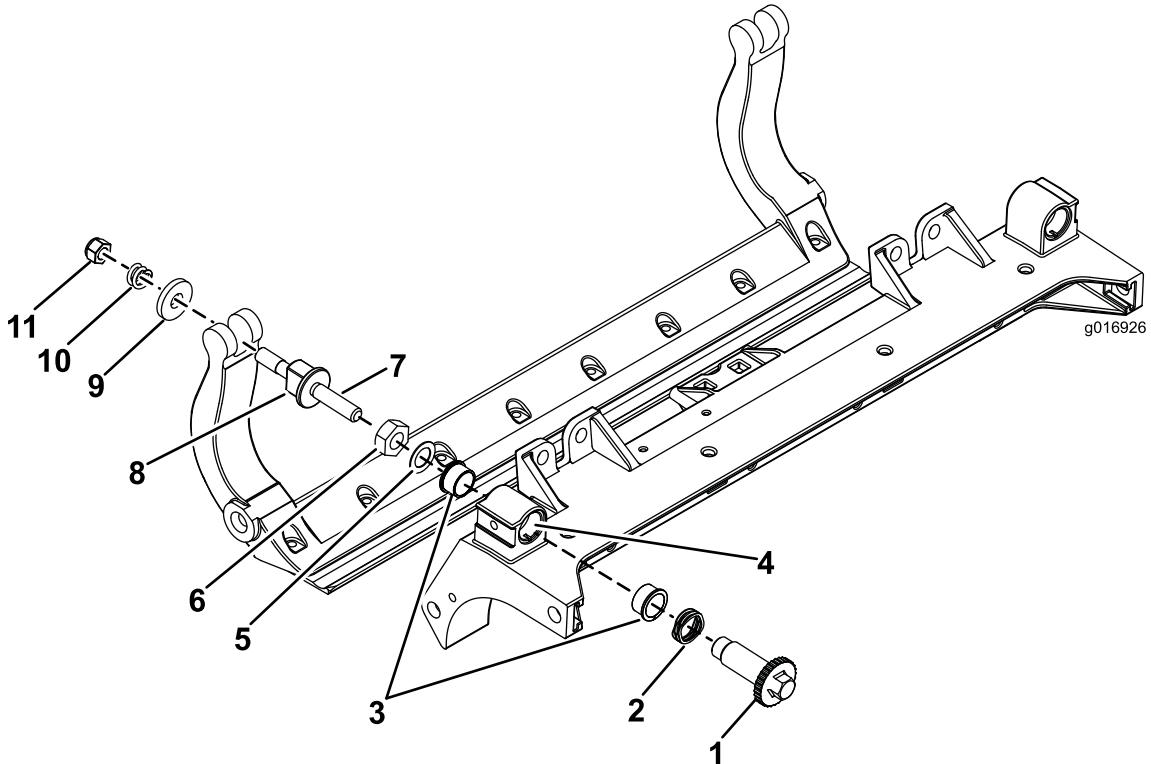

Figure 33
1. Remove all parts (refer to the *Installation Instructions* for the HD DPA Kit (Model No. 120-7230) and to Figure 33).
2. Apply anti-seize compound to the inside of the bushing area on the carrier frame of the cutting unit (Figure 33).
3. Align the keys on flange bushings to the slots in the frame and install the bushings (Figure 33).
4. Install a wave washer onto the adjuster shaft and slide the adjuster shaft into the flange bushings in the cutting unit frame (Figure 33).
5. Secure the adjuster shaft with a flat washer and lock nut (Figure 33). Torque the lock nut to 20 to 27 N·m (15 to 20 ft-lb).
Note: Position a nylon washer on each side of the side plate boss. Place a steel washer outside each of the nylon washers (Figure 33).